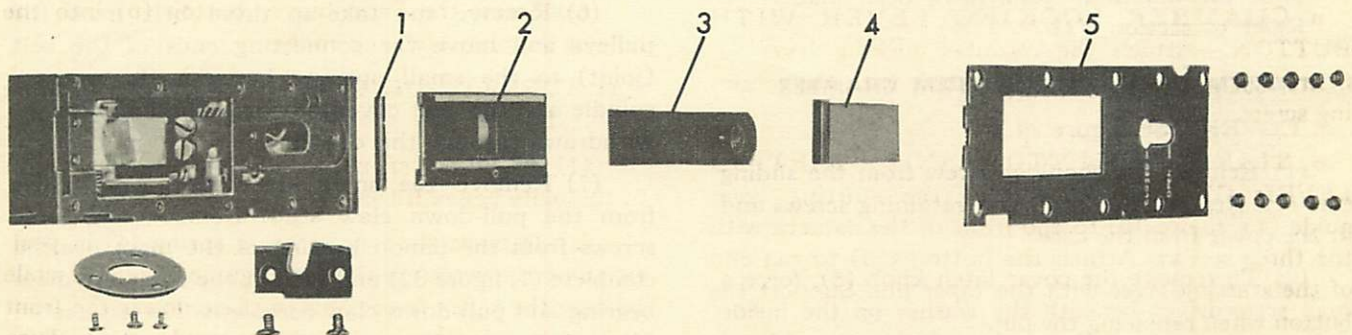
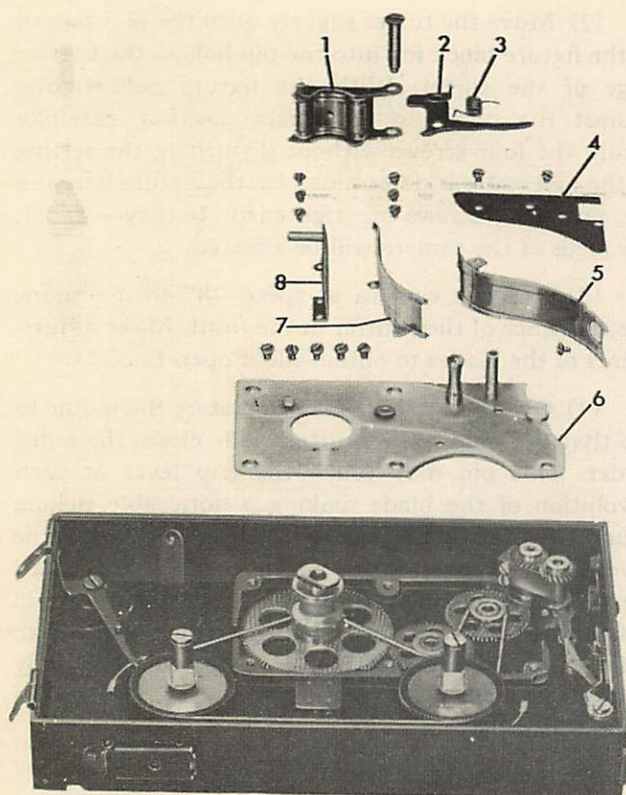
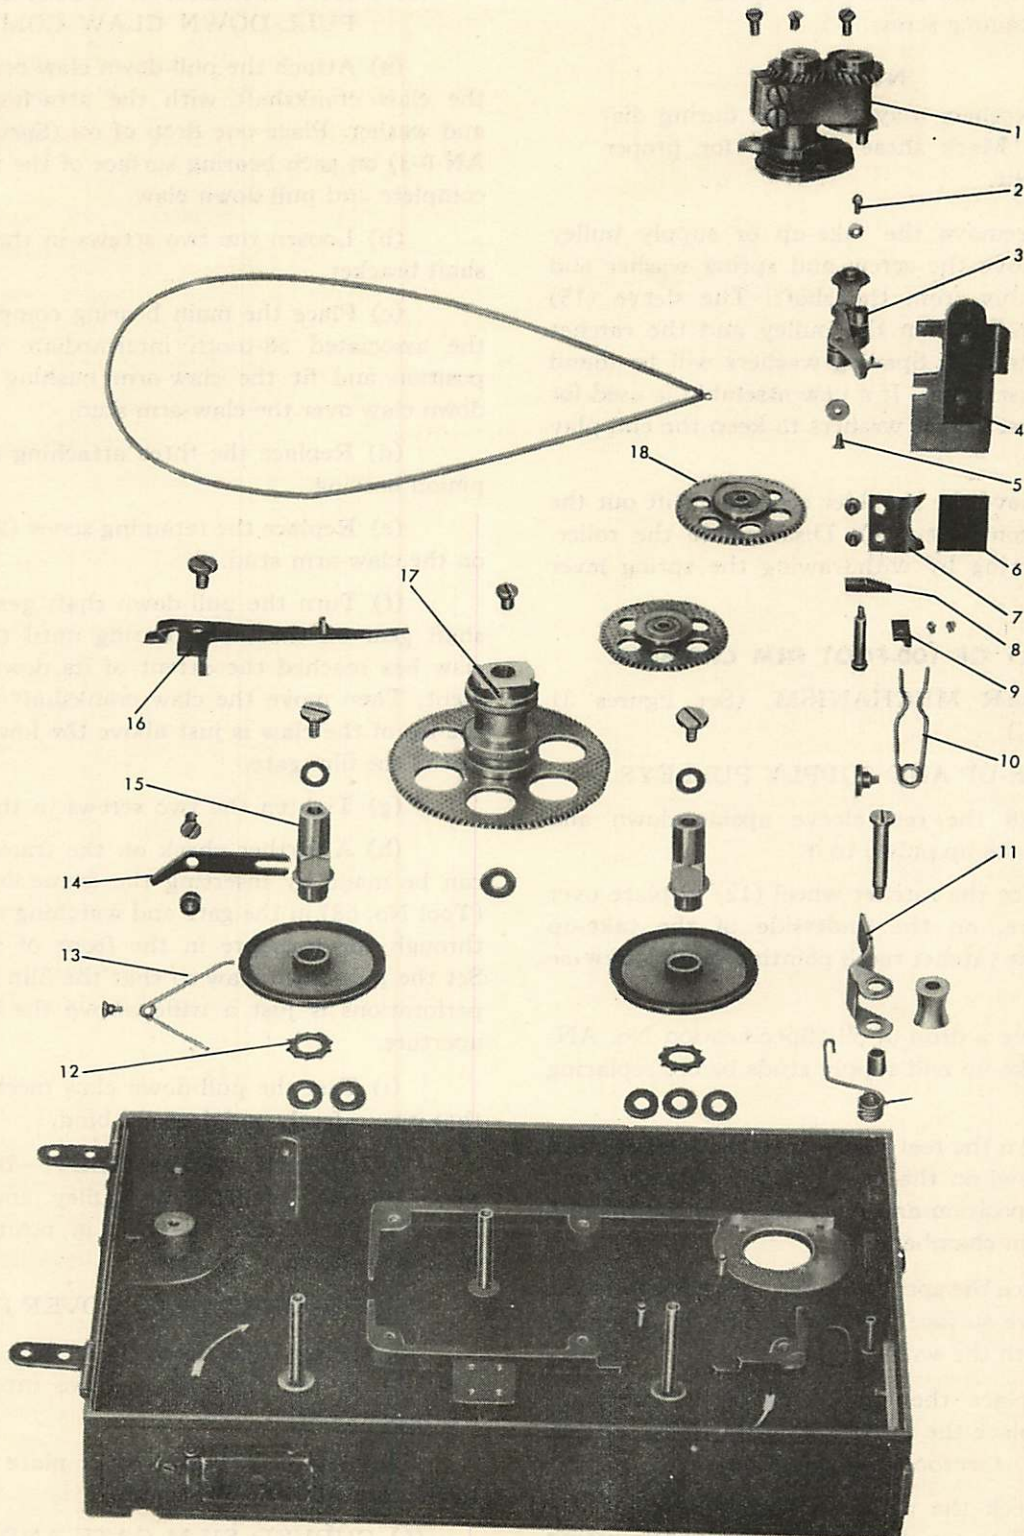

Figure 30—100-Foot Film Chamber—Front Exploded
Figure 31—100-Foot Film Chamber—Guides and Plates Exploded
Figure 32—100-Foot Film Chamber—Mechanism Exploded
(1) Remove the screw from the footage pointer actuating lever (16, figure 32) and lift out the lever.
(2) Remove the six retaining screws from the footage plate on the rear of the chamber and remove the plate, window, and footage pointer.
c. FRONT PLATE. (See figure 30.)
(1) Withdraw the pressure pad from between the spring lever and the film gate.
(2) Withdraw the blind mask (4). Remove the ten attaching screws and lift off the front plate (5).
(3) Remove the mask spring (1) and lift out the film gate (2) with aperture slide (3).
d. FILM CHAMBER MECHANISM. (See figures 31 and 32.)
(1) Remove the two retaining screws and lift off the gear cover (4).
(2) Remove the remaining screw and the film shoe (5).
(3) Remove the large shoulder screw and lift off the sprocket clamp complete (1).
(4) Remove the three attaching screws from the film guide (8) and three screws from the curved film gate (7).
(5) Remove the five attaching screws and lift the sprocket gear cover plate (6) straight up and out.
(6) Remove the take-up drive belt from the pulleys and move the connecting ends of the belt (joint) to the small opening between the take-up spindle and the gear cover support. The joint can be withdrawn through this opening.
(7) Remove the small screw (2) and washer from the pull-down claw stud. Remove the three screws from the pinion bearing of the main bearing complete (1, figure 32) and lift out the complete main bearing and pull-down claw complete. The associated 58-tooth intermediate gear must be removed with the pinion bearing.
(8) Remove the attaching screw (5) to detach the pull-down claw complete (3) from the claw crankshaft.
a. CHAMBER MECHANISM. (See figures 31 and 32.)
(1) TAKE-UP AND SUPPLY PULLEYS.
(4) TAKE-UP DRIVE BELT.—Insert the belt joint between the take-up pulley and mechanism housing. Then place the belt in position over the pulleys as shown in figure 31.
(5) SPROCKET GEAR COVER PLATE.
(b) Attach the gear cover plate (6, figure 31) to the case with the five screws.
(1) Insert the stud on the footage pointer through the opening in the case with the footage lever spring forcing the pointer to the "EMPTY" position.
(2) Replace the footage plate with window and attach with the six screws.
(3) Secure the actuating lever (16, figure 32) in place with the shoulder screw. Place one extending projection between the stud on the pointer and the footage lever spring. The projection on the end of the lever must be in front of the connecting lever. After assembling the actuating lever, check to see that the action of the pointer is correct.
c. FILM-GATE APERTURE SLIDE COMPLETE AND FRONT PLATE. (See figure 30.)
(1) Replace the aperture slide (3) in the film gate (2). Place the film gate in position on the front of the chamber case and insert the aperture slide stud through the forked spring within the case.
(2) Replace the mask spring (1) (curved side up) in the depression at the top of the case.
(3) Lay the front plate (5) over the film gate complete and secure it to the case with the 10 screws.